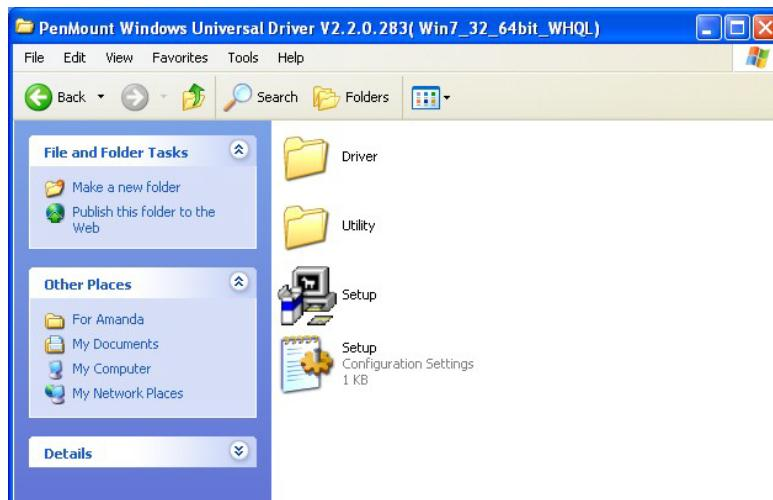

Figure 7-1: Setup Icon
Step 9: Select the Touch Screen option in the menu of driver CD. The directory in **Figure 7-1** appears.
Step 10: Double click the setup icon in **Figure 7-1**.